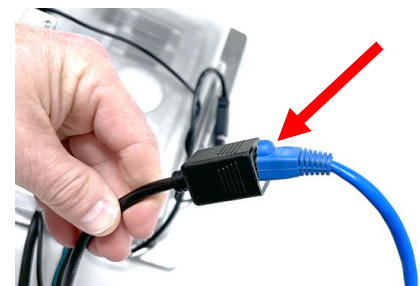

Figure 18
18. If connecting using ethernet, route the ethernet cable to the rear of the Vat #1 controller ethernet connection and connect to the controller (see Figure 18).